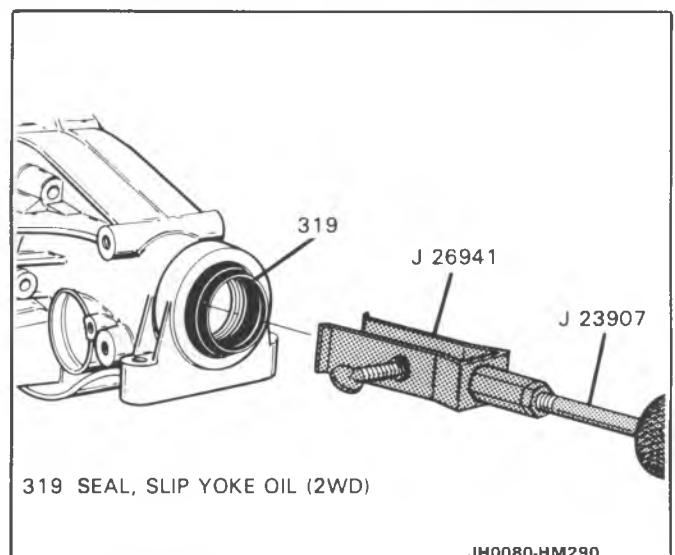

Figure 59 Removing 2WD Slip Yoke Oil Seal
4. Slip yoke oil seal (319), using J 26941 and J 23907 (Figure 59).
5. Plug (322).